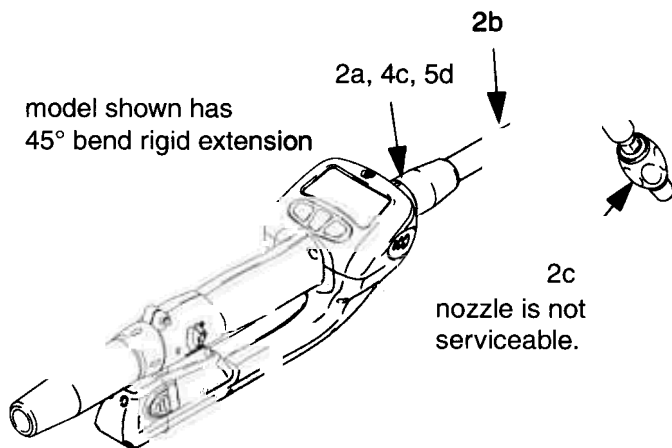

FIG. 4
9. Thread the sealing nut (2a, 4c, or 5d) onto the extension or adapter (5c), adapter is used only for nozzle kit 246006. Thread the extension or adapter in at least three full turns, position it for proper alignment, and tighten the sealing nut. The Teflon seal on the sealing nut must face the valve housing. See FIG. 4.
10. Thread the new nozzle (2c, 4a, or 5a) onto the extension, and, with an open-end adjustable wrench, tighten it firmly. See FIG. 4.